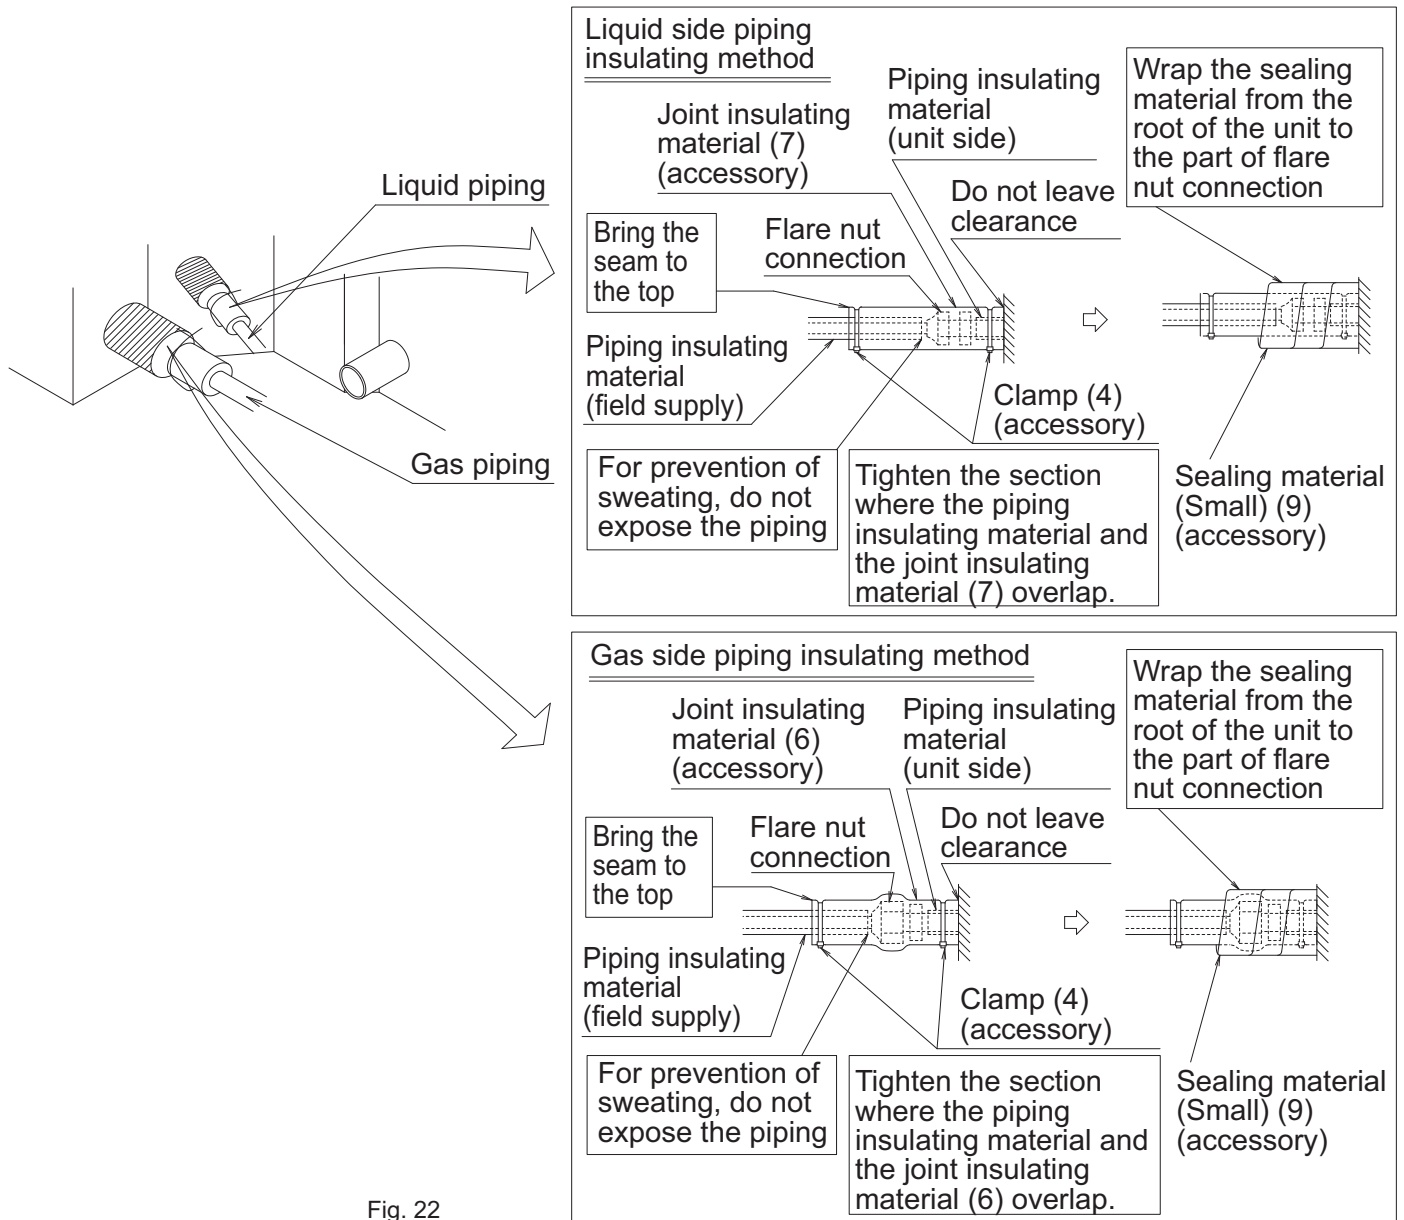

Fig. 22
- After leak test, insulate both the gas and liquid piping connection with the attached joint insulating material (6) and (7) to prevent the piping from getting exposed. **(Refer to Fig. 22)**